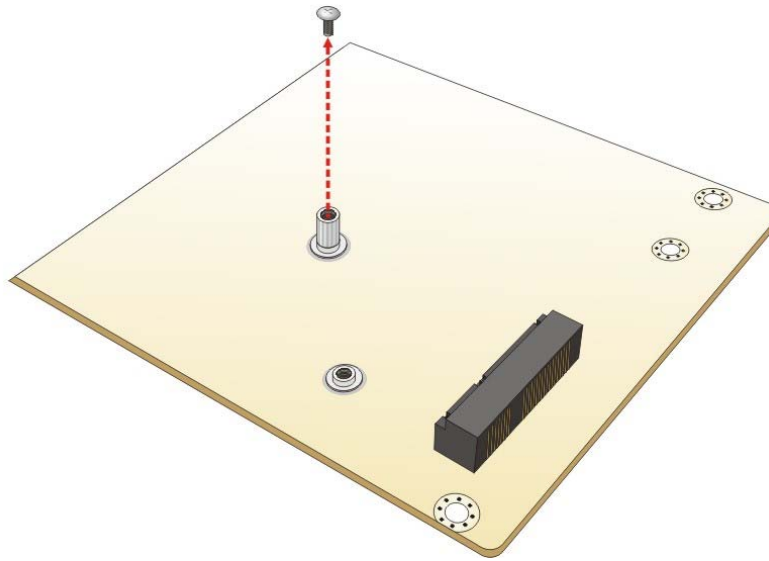

Figure 4-5: Removing the Retention Screw
Step 2: **Remove the retention screw.** Remove the retention screw as shown in **Figure 4-5**.
- Step 2:** Remove the retention screw. Remove the retention screw as shown in Figure 4-5.